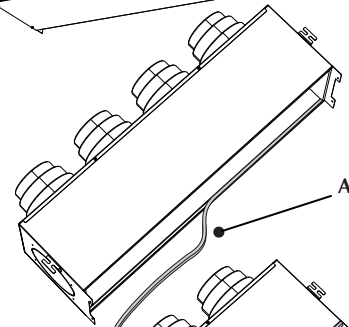

Fig.2
- Stick the adhesive side of the shorter insulating gasket (A) on the internal bend of the closing panel (fig.2).
- Stick the adhesive side of the two longer gaskets on the external side of the bends (B) (fig.2).